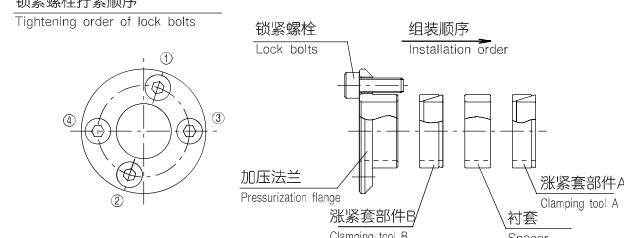

图3 /Fig. 3
3. 按涨紧套部件A、衬套、涨紧套部件B、加压法兰盘的顺序安装在滚轮上。请确认涨紧套的朝向是内圈是放在内侧的状态（图3）。
Install the clamping tool parts in the roller pinion in order of the clamping tool A, the space, the clamping tool B and the pressure flange. At this time, the inner ring of the clamping tool should be on the back side(Fig. 3) .
7. 调整后，将锁紧螺栓按照对角线顺序（图3）均等拧紧到各自规定扭矩的大约1/4，慢慢加大扭矩进行拧紧。
After the adjustment, fasten the lock bolts diagonally(Fig.3) and uniformly starting at 25% or so of recommended tightening torque with gradual increase.